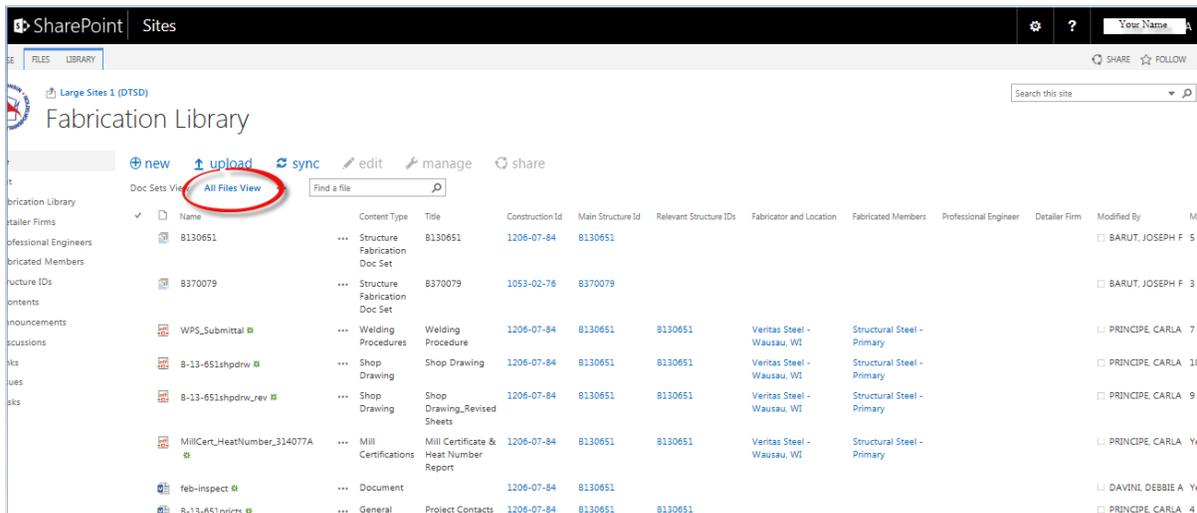

Figure 5: All files view
- Select *All Files View* (see **Figure 5**)